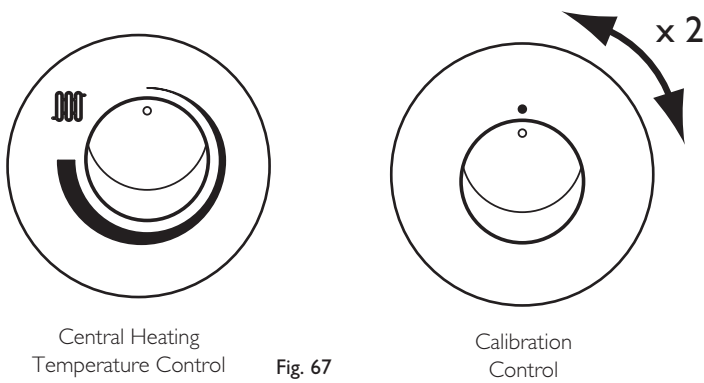

Fig. 67
3. Turn both control knobs fully anticlockwise, then quickly turn the right hand knob 1/4 clockwise twice and back fully anticlockwise (Fig. 67).